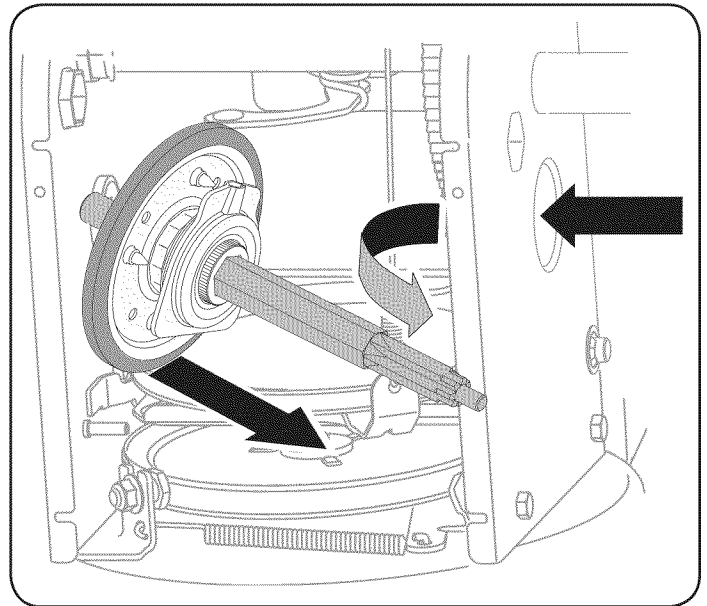

Figure 36
- Carefully position the hex shaft downward and to the left before carefully sliding the friction wheel assembly off the shaft. See Figure 36.